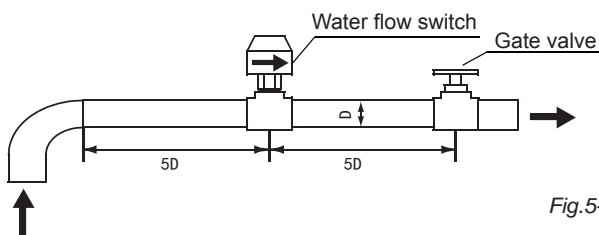

Fig.5-7
5.5.3 Water flow switch must be installed on a section of straight-line pipeline, and its both ends must be supplied with straight-line pipes whose length is at least 5 times diameter of the pipe. In the meanwhile, the fluid flowing direction in the pipeline must be consistent with the direction of arrow on the switch. The connection terminal should be located where wiring connection can be easily done. (Fig.5-7).